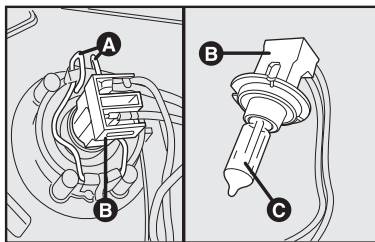

fig. 22
- 2) Desengatar as molas **A-fig. 22**, retirar o conector **B** e remover a lâmpada **C**.